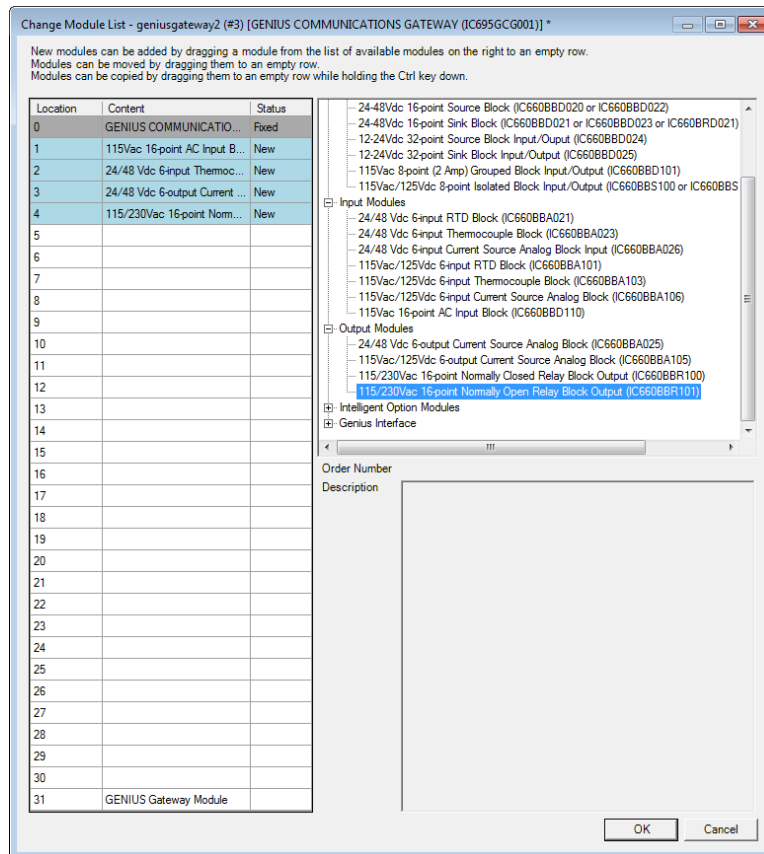

Figure 18: Populating the Genius IO Devices to be Controlled by the Genius Gateway
12. Select individual Genius I/O devices from the right-hand panel of Figure 17 and then drag/drop them into the appropriate location row on the left-hand side, resulting in Figure 18.
16. Once all the Genius Devices have been populated onto the Genius Bus topology as shown in Figure 18, click the **OK** button to save that portion of the configuration.